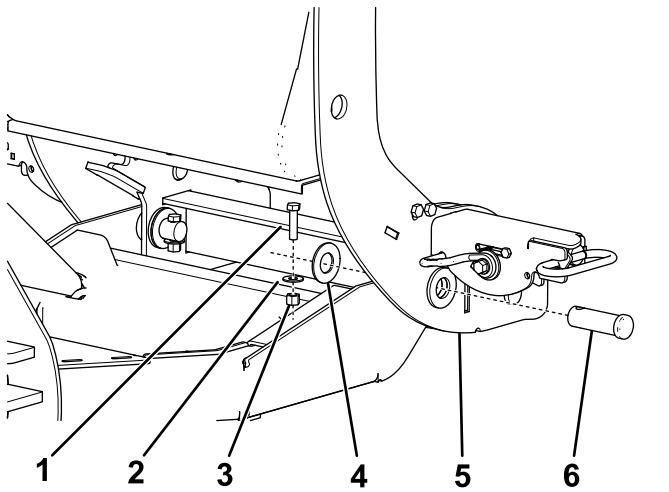

Figure 12
1. Align the pivot holes of the coupler tower with the pivot holes on the pushframe, and secure them with a clevis pin (1 inch), flat washer (1 inch), bolt (3/8 x 1-1/2 inches), washer (3/8 inch), and locknut (Figure 12).